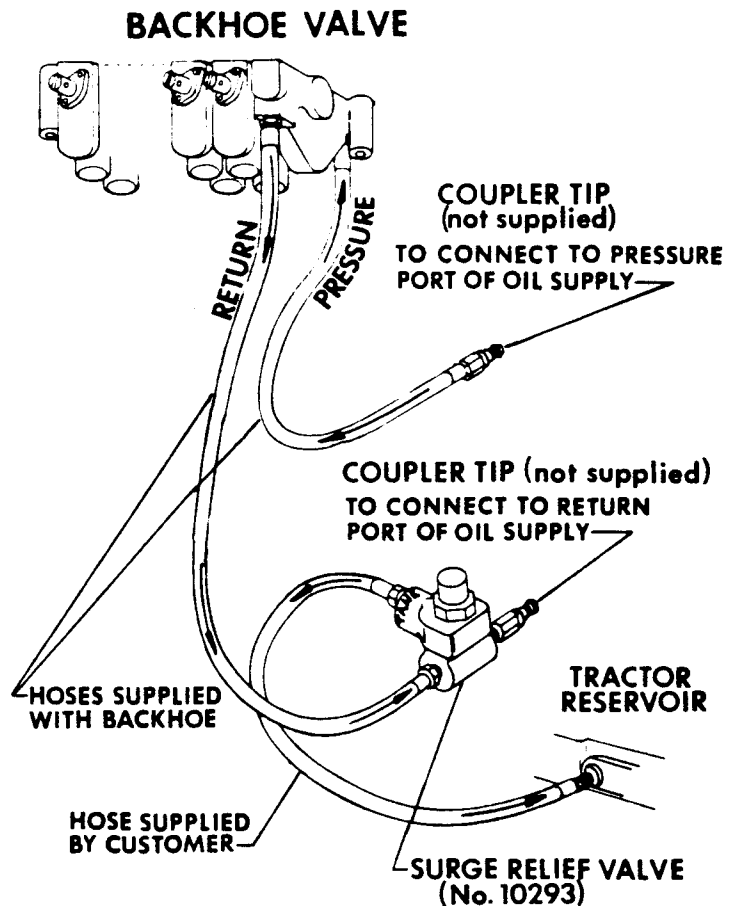

FIG 24
1. OPEN-CENTER SYSTEM - Fig 24: